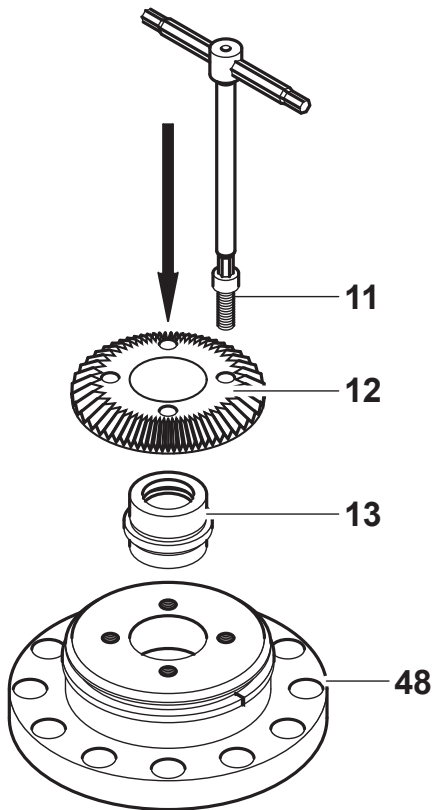

Fig. 9.13
9.3.14) Insert the bush pos.13 and the pinion pos.12 in the flange pos.48 and then lock it all with the screws pos.11 putting a drop of Loctite 222 on them (Fig.9.13).